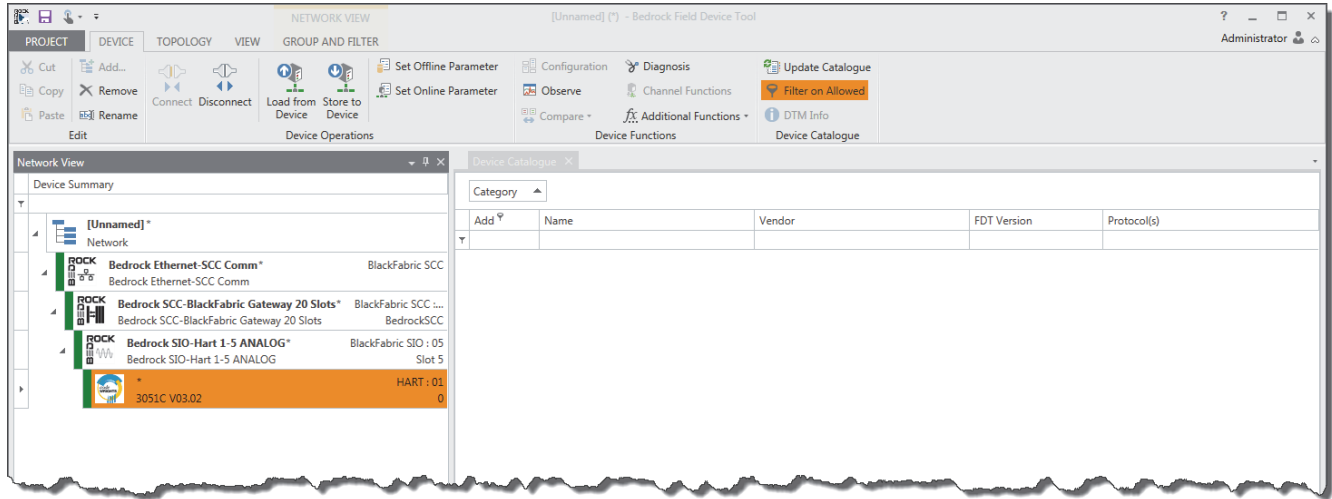

Figure 11-16 All Nodes Connected
18. The nodes in the Network View Device Summary should all be in the Connected state as indicated by the green status bars. See Figure 11-16.